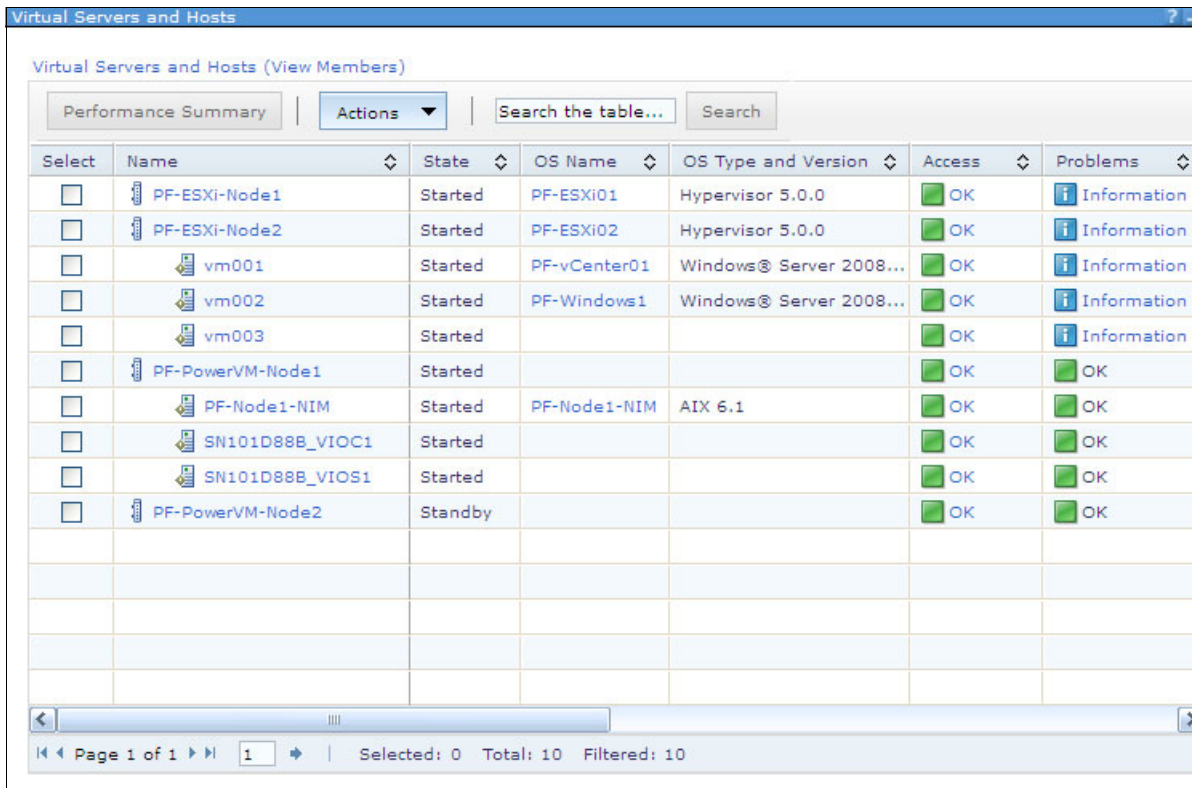

Figure 11-37 Virtual Servers and Hosts window
- Click **OK** to start the relocation job immediately and observe the Virtual Servers and Hosts window to ensure that all virtual machines from PF-ESXi01 relocate to PF-ESXi02, as shown in Figure 11-37.